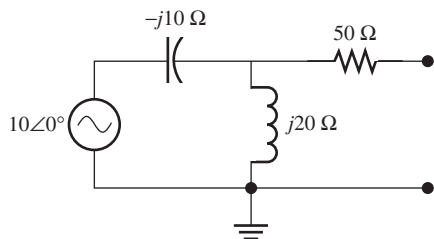

FIGURE P6.47 Circuit for Problem 6.47.
- 6.47 (A) Find the Norton equivalent circuits for the circuit shown in Figure P6.47.